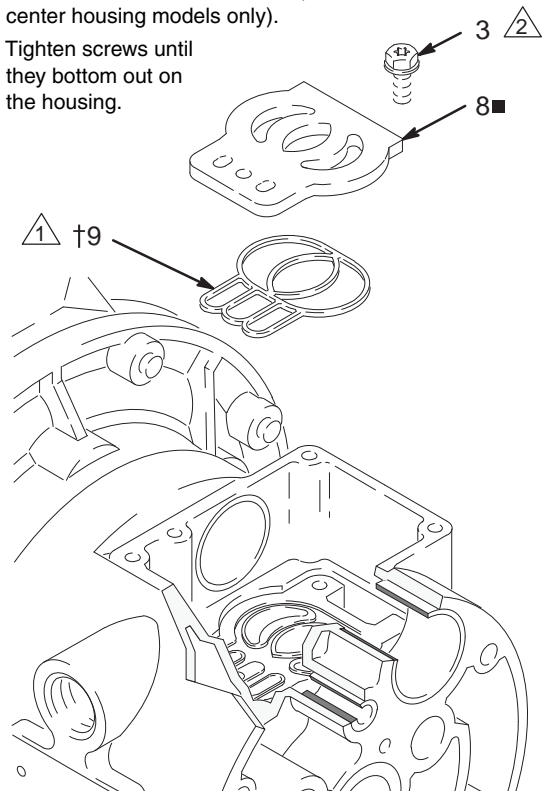

Fig. 11
5. Inspect the valve plate (8■) in place. If damaged, use a Torx (T20) screwdriver or 7 mm (9/32") socket wrench to remove the three screws (3). Remove the valve plate (8■) and, on aluminum center housing models, remove the seal (9). See Fig. 11.
2. On aluminum center housing models, install the valve plate seal (9†) into the groove at the bottom of the valve cavity. The rounded side of the seal **must face down** into the groove. See Fig. 11.
3. Install the valve plate (8■) in the cavity. On aluminum center housing models, the plate is reversible, so either side can face up. Install the three screws (3), using a Torx (T20) screwdriver or 7 mm (9/32") socket wrench. Tighten until the screws bottom out on the housing. See Fig. 11.